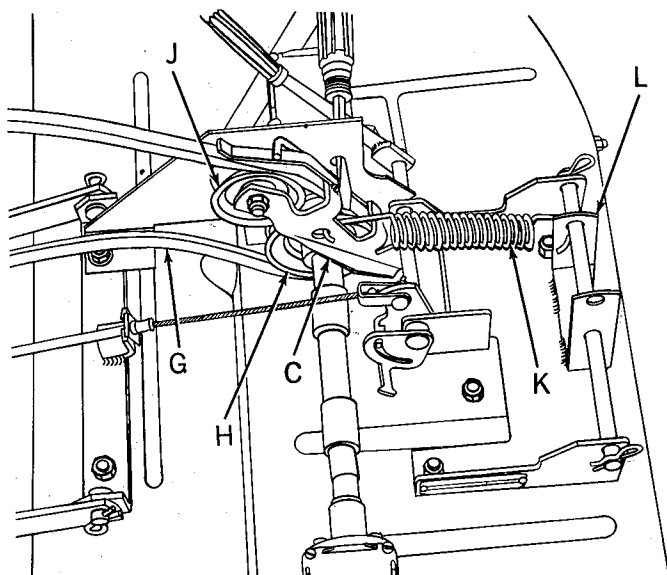

FIG. 11
Refer to Fig. 11. Place belt (G) on pulley (H) of cross shaft, and on idler pulley (J) as shown. Assemble largest spring (K) from idler bracket (C) to mounting angle rear (L) as shown. **IMPORTANT:** Long hook of spring (K) must be to idler bracket (C) and hook end away from belt (G) as shown.